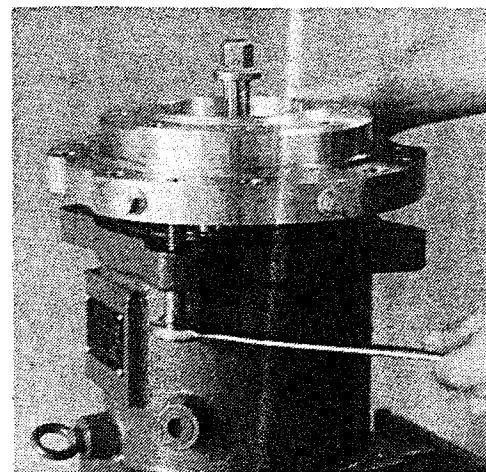

Figure 2
7. Place two M16 bolts (spaced at 180°) into the threaded ears of the bearing housing to jack the rear casing away from the bearing housing [Fig. 2]. Jack evenly to avoid binding between the rear casing and outer magnets.